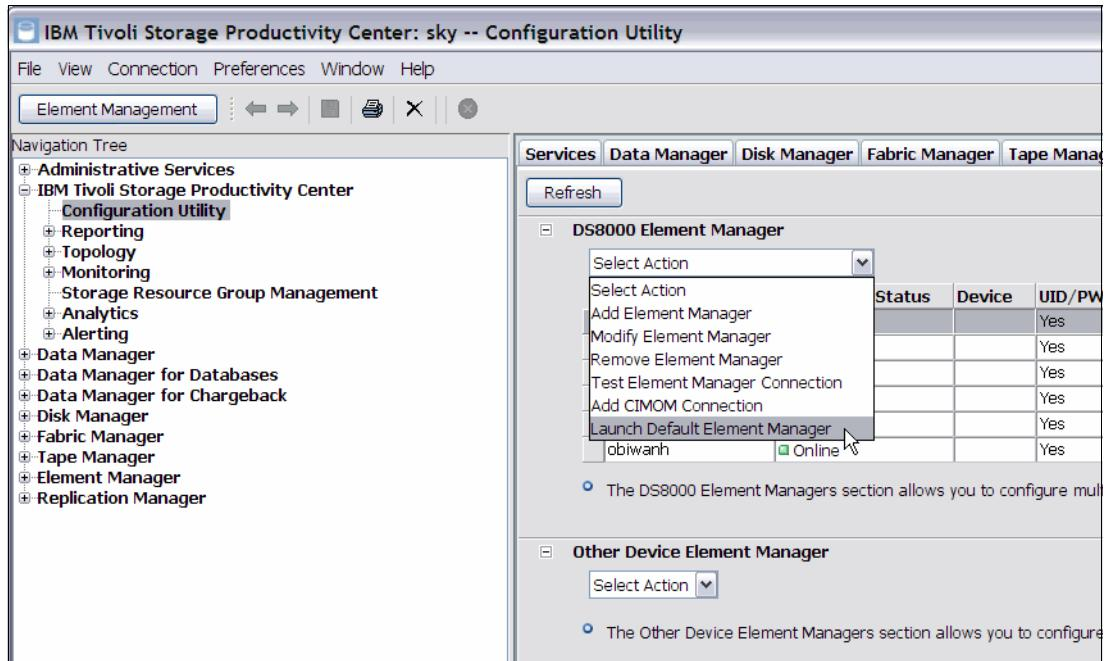

Figure 13-5 SSPC: Select DS8700
4. Once the Element Manager is launched, click the disk system you want to access, as shown in Figure 13-5.